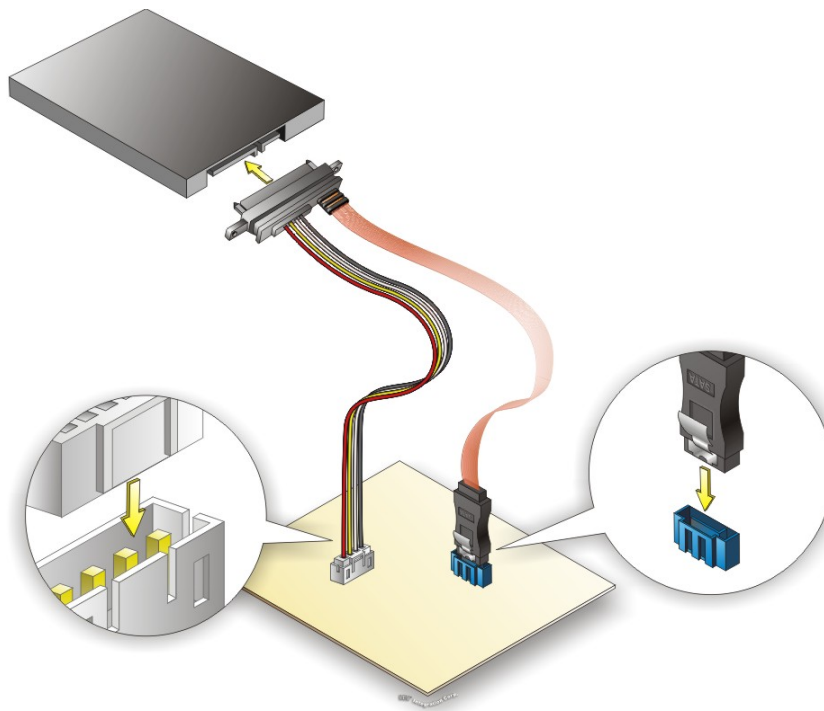

Figure 4-21: SATA Drive Cable Connection
Step 2: Insert the cable connector. Insert the cable connector into the on-board SATA drive connector and the SATA power connector. See **Figure 4-21**.
Step 3: **Connect the cable to the SATA disk.** Connect the connector on the other end of the cable to the connector at the back of the SATA drive. See **Figure 4-21**.